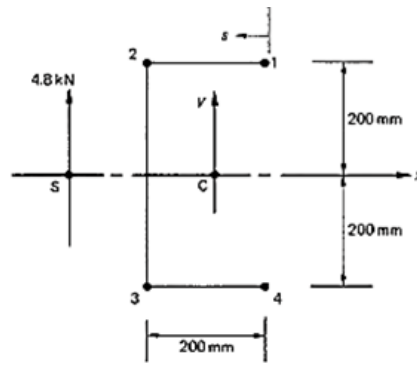

Figure 4
- (b) Calculate the shear flow distribution in the channel section shown in Figure 4. produced by a vertical shear load of 4.8 kN acting through its shear center. Assume that the walls of the section are only effective in resisting shear stresses while the booms, each of area 300mm^2 , carry all the direct stresses. [7M]